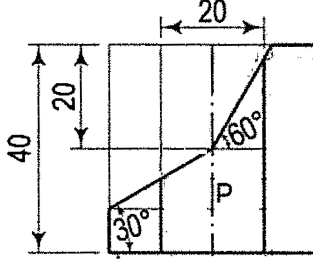

Figure-1.
- (b) Draw the development of surfaces of portion –“P” of the Hexagonal Prism given in figure- 1. 07